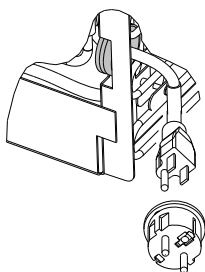

Figure 4: Remove adapter from power cord
- a. **230 VAC Models Only** – Remove the AC Plug adapter from the end of the power cord by first cutting away the plastic heat shrink tubing. Then pull the adapter off, leaving just the North American 115 VAC plug (Figure 4).